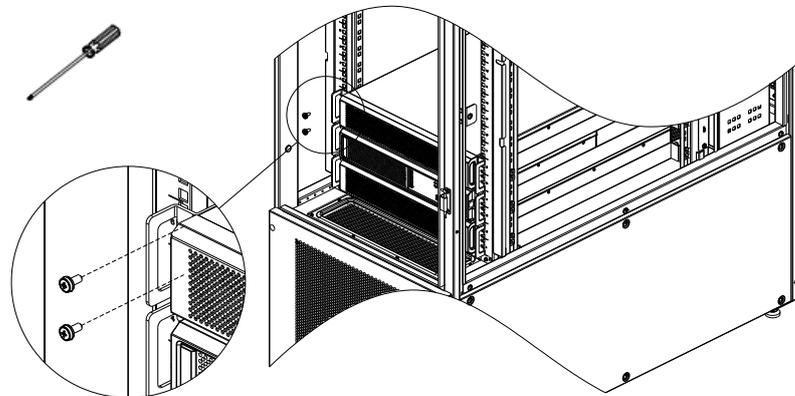

Figure 2-21 Fixing the battery pack
6) Place the battery pack on the guide rail, install it on the 5th and 6th U positions on the column, and fix it with M6×16 screws (4 pcs), as shown in Figure 2-21.